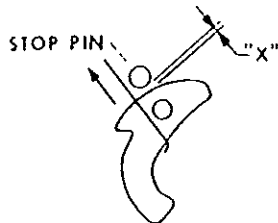

Figure 607. Flyweight/Axle Wear Check (Pull)
(1) Rotate the impulse coupling so that the flyweight axles are adjacent to the stop pins. Pull the flyweight toward the stop pin using the same wire hook, and in the same manner as used in the preceding clearance check. (See Figure 607.)
(2) Insert feeler gages between the stop pin and flyweight to measure the clearance ("X" of Figure 607) while the flyweight is held outward. Maintain constant outward pressure on the flyweight while measuring clearance to ensure an accurate clearance check is being made, and record measurement "X".